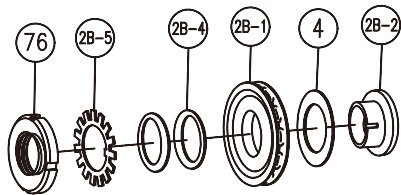

Figure 2
3. Slacken chain and inspect contact points for excessive wear. Refer to Figure 2.